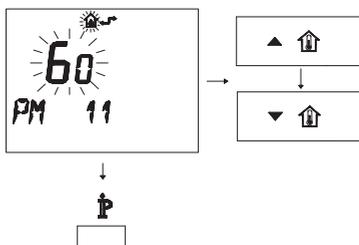

Fig. 7.31
- To modify the programmed SET, act on buttons $\blacktriangle \uparrow$ or $\blacktriangledown \uparrow$ and wait for the programmed number to flash (Fig. 7.31). Each step increased or decreased corresponds to 1 second.